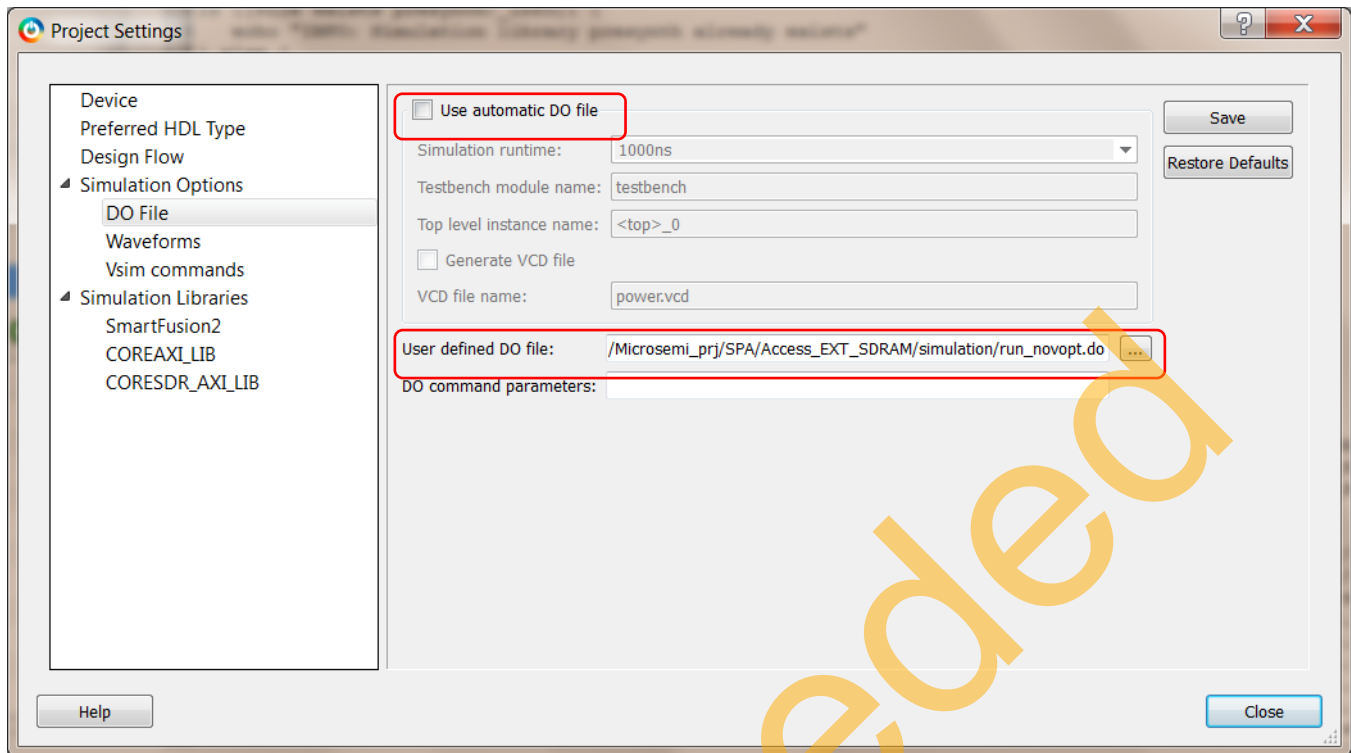

Figure 30. Specifying run_novopt.do for VHDL ModelSim Full Version
- A .do file, **run_novopt.do** which has the switch already set, is provided along with the source files in the tutorial zip files. To use the provided run_novopt.do file, clear the **Use automatic DO file** check box and browse to the location of the provide run_novopt.do file, as shown in Figure 30.